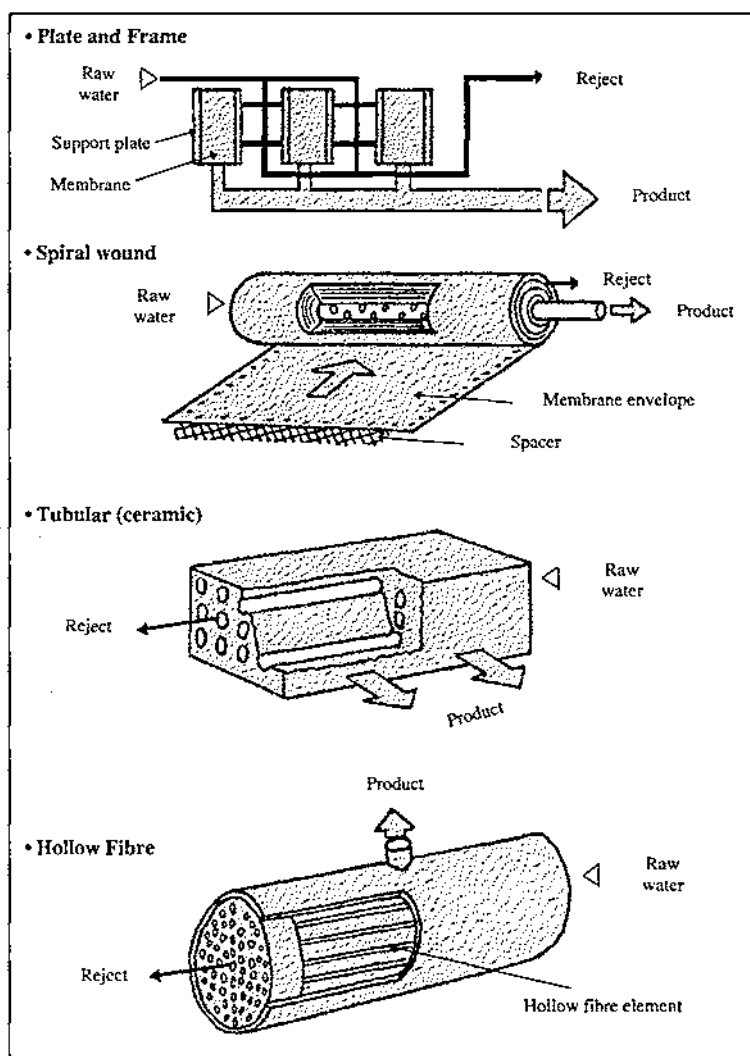

Figure 2. Four different membrane module types.
**Membrane Shape.** Membranes can be manufactured as flat sheets or as cylindrical tubes. Large tubes (greater than 3mm diameter) are called "tubular", smaller ones "hollow fibre". They are manufactured into modules which provide structural support, a feed inlet, and outlets for the product and reject. The shape of the module can have a significant effect on the efficiency of the system as a whole, and ideally as much membrane surface area as possible is packed into as small a volume as is practicable. Figure 2 shows the different types of membrane module available.